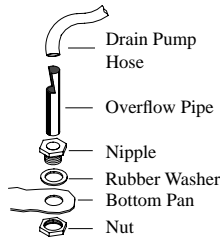

Fig. 2
• **Install overflow assembly.** Remove nut and place nipple through the hole in the pan, with the rubber washer between the pan and the head of the drain nipple (Fig. 2). Screw on nut and draw up tight against bottom of pan. Insert overflow into nipple to retain water. The overflow pipe comes from the factory connected to the dump pump hose. The overflow pipe may be removed to drain pan when necessary. A garden hose may be screwed on the drain nipple to drain water away from your unit.